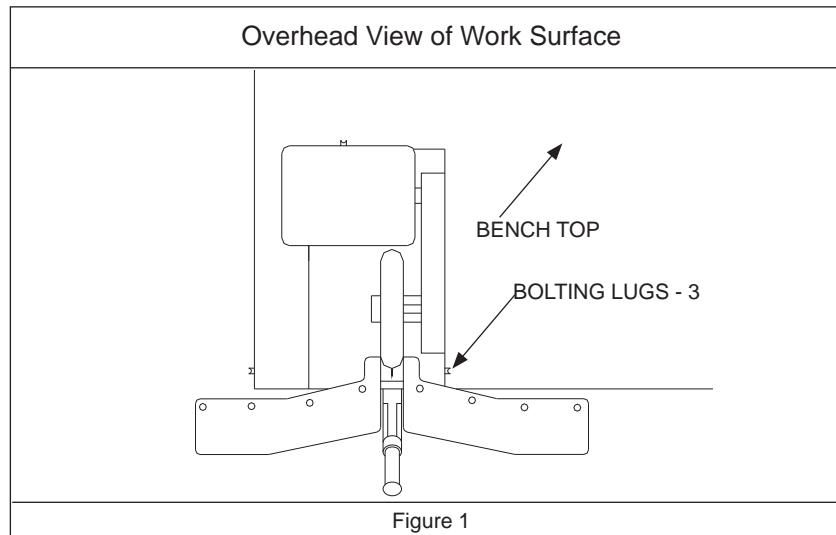

Figure 1
2. Mount the saw using the three mounting tabs on the machine base. The mounting holes in the work surface should be located as shown in Figure 1.